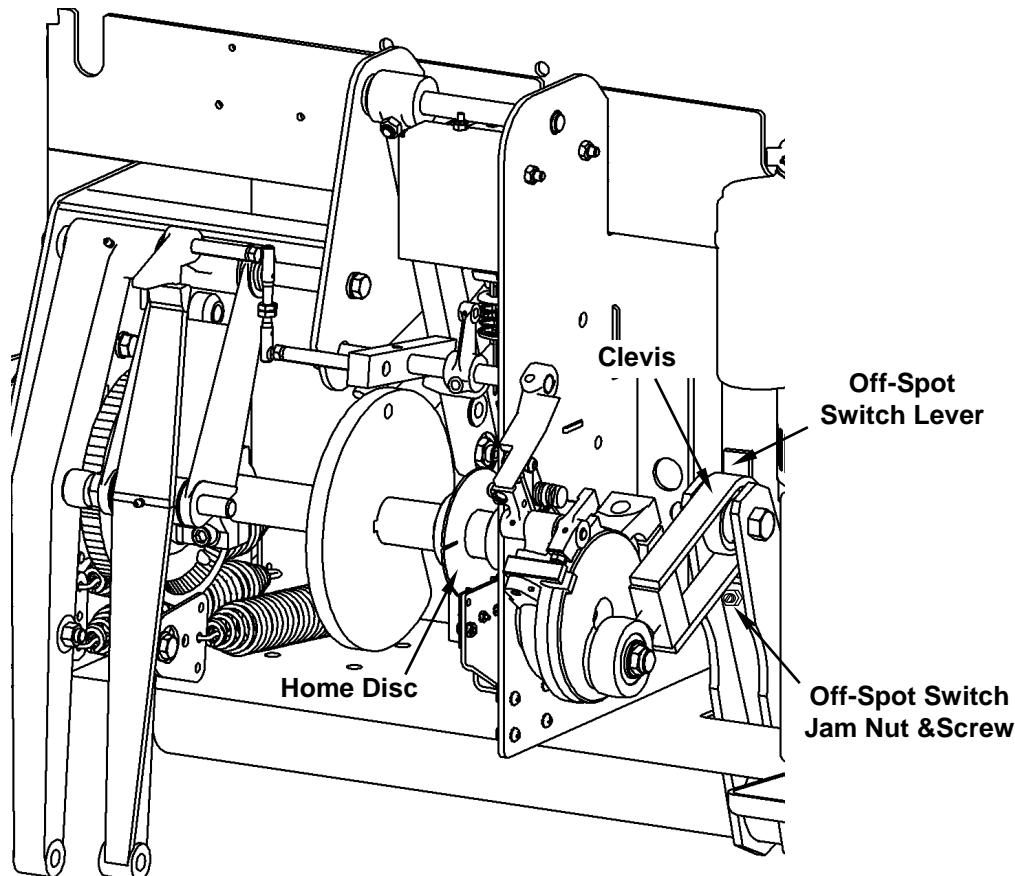

Figure 4.2-13
1. With the table at the home position, loosen the off-spot adjusting screw jam nut located on the table arm just below the clevis (see Figure 4.2-13).